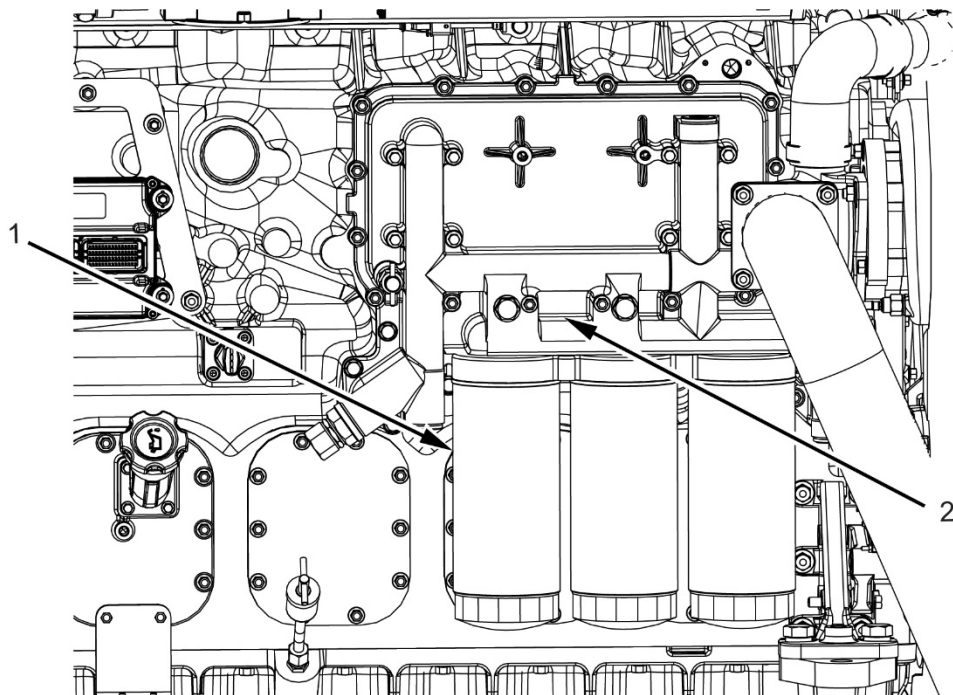

Figure 132. Engine Oil Filter Assembly
1. Separate the oil filters (Figure 132, Item 1) from the oil filter seat (Figure 132, Item 2).